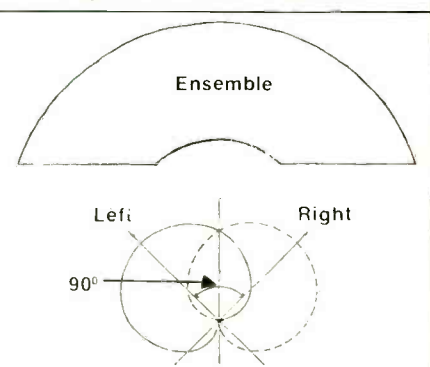

Figure 5: Lauridsen, or X-Y
2. The Lauridsen pair or X-Y pattern, shown in Figure 5, is another traditional approach that uses two cardioid microphones in coincidence, with their axes orientated 90° apart. Various other angles can also be used⁴. The X-Y technique generally results in a fairly even soundfield that is narrower than the spacing of the monitor speakers. As a general rule, the greater the angle between the mikes, the wider the resultant image. It should be noted that experimenting with various orienta-